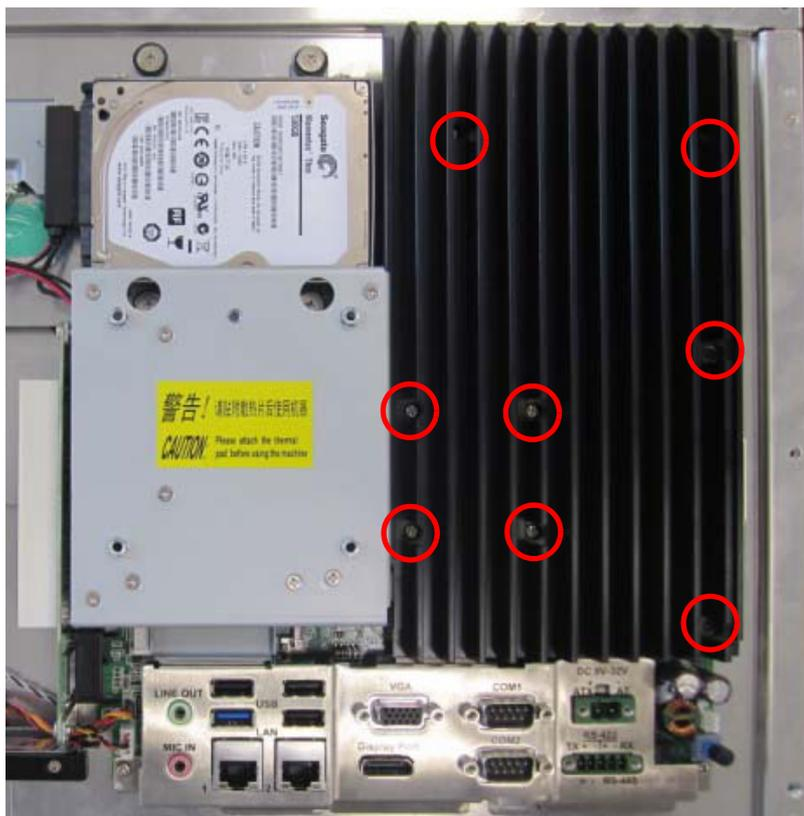

Figure 2.7
- Loosen the 8 screws of the heat sink and then remove it. (See Figure 2.7)